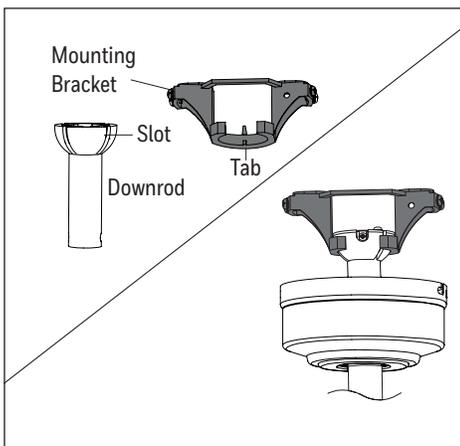

Figure 2.7
7. Install the ball end of the downrod into the opening of the mounting bracket. Rotate the downrod until the tab in the mounting bracket is seated in the slot in the downrod ball. **WARNING:** The fan and/or downrod should not rotate in the mounting bracket, if installed correctly. Failure to align the slot in the downrod ball with the tab on the mounting bracket may result in fan falling causing serious injury or death (Figure 2.7).